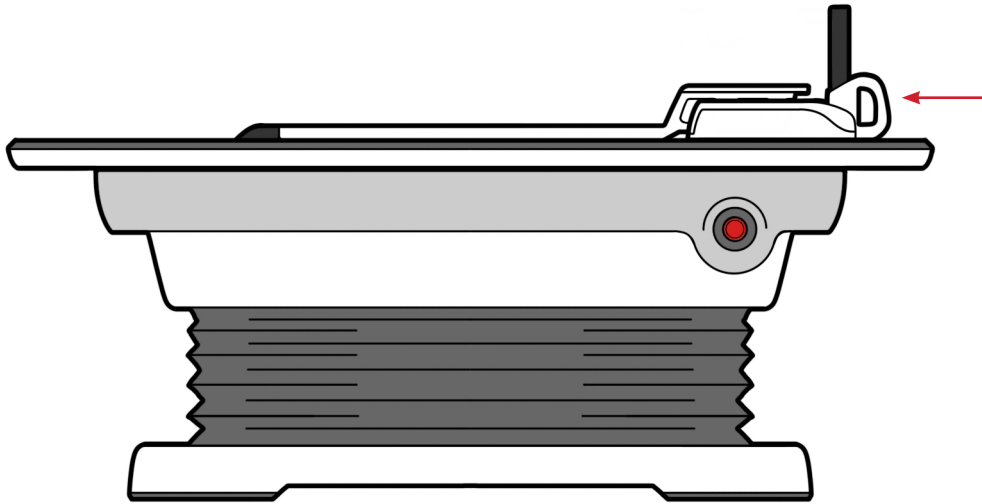

Figure 2
4. Place Bottom Coil on the MR Table. Using the handle on the device, slide the device in place under the Encompass™ MRI SRS Immobilization Device (RT-4600-01-MRI) (Fig. 2).